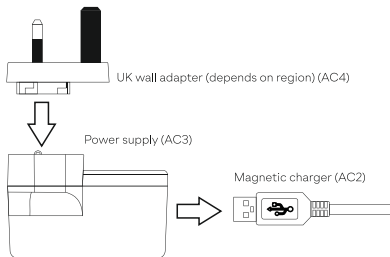

Figure 5. Preparation for charging (b)
1. Wall adapter is connected to the power supply (see figure 5).
2. USB connector of magnetic charger cable is connected to power supply's USB socket (see figure 5).